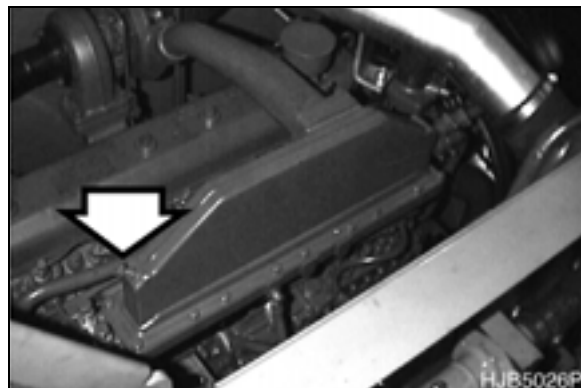

Figure 70
NOTE: When filling engine with flushing solution, open vent (Figure 70) on intercooler to allow air to escape. Close vent when solution is present.
- NOTE:** When filling engine with coolant, open vent (Figure 70) on intercooler to allow air to escape. Close vent when coolant is present.